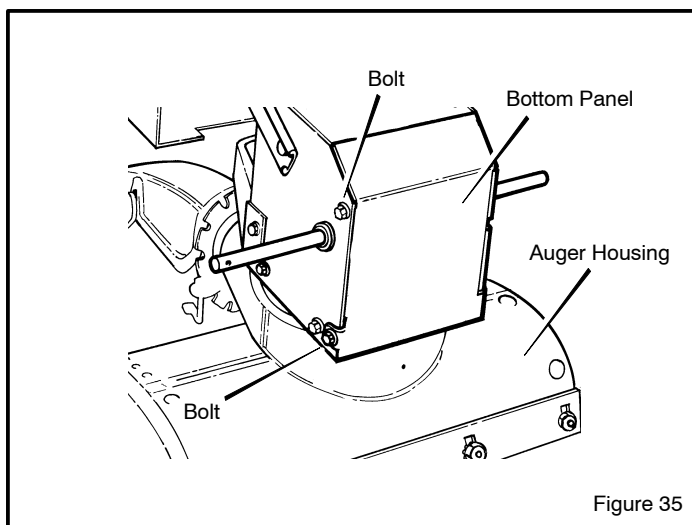

Figure 35
2. Loosen the **bolts** on each side of the **bottom panel** (see Figure 35).
10. Install the **bottom panel** (see Figure 35).